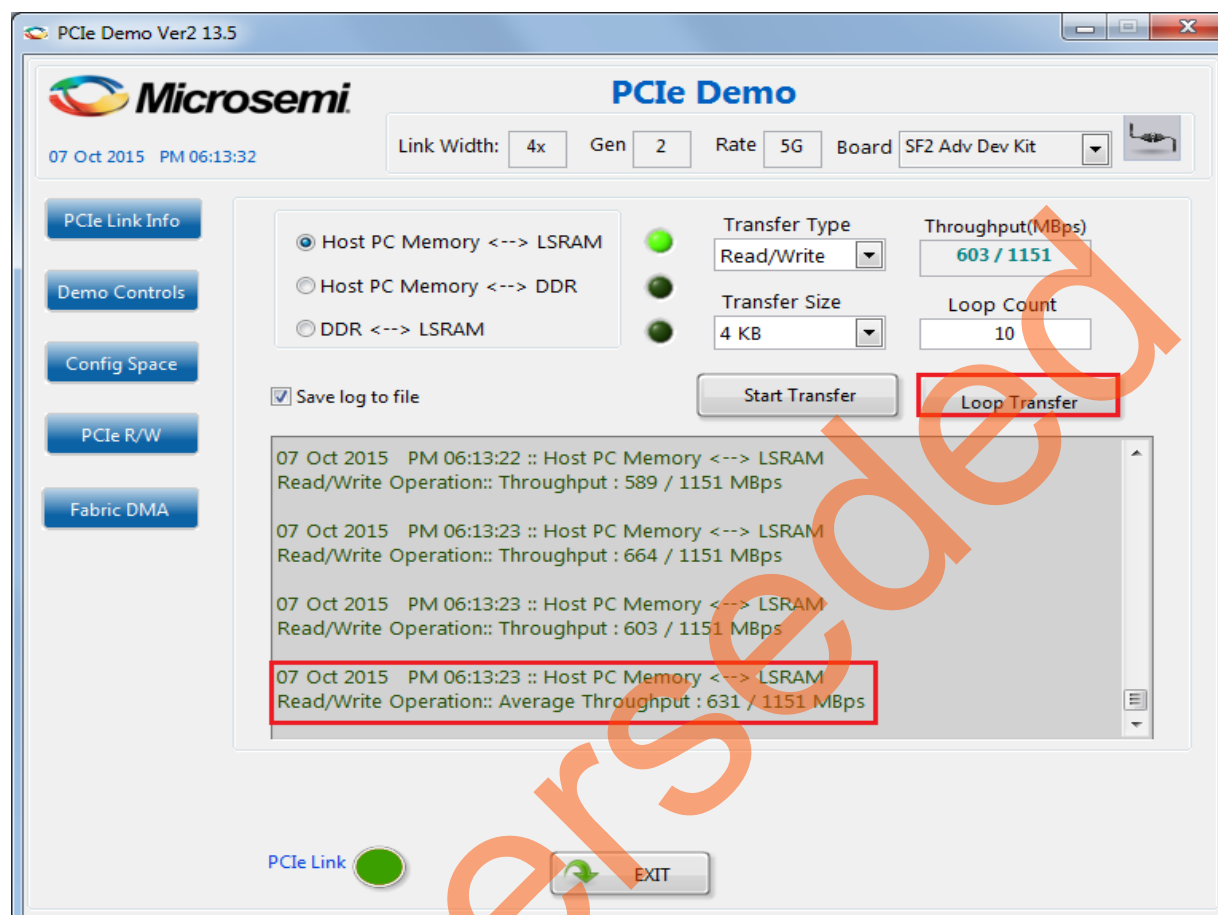

Figure 31 • DMA between Host PC Memory and LSRAM
21. Enter 10 in the **Loop Count** field and click **Loop Transfer** to perform 10 sequential DMA transactions. After completion of data transfer, the throughput is displayed as shown in Figure 31.